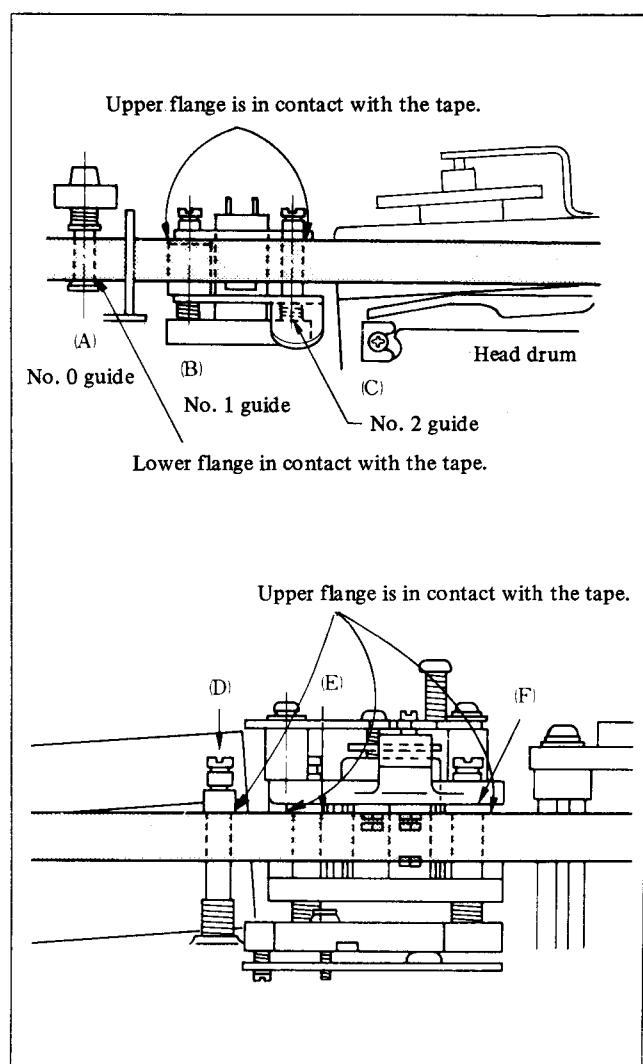

Fig. 3-27. Adjustment of Tape Path
When the waveform at the entrance side is not flat as shown in Fig. 3-27 for the clockwise and counterclockwise turning of the TRACKING control knob from center, detent position, adjust the heights (A), (B), and (C) of tape guides (0), (1) and (2). When the waveform at the tape exit side is not flat, adjust the height of the tape guides (D), (E) and (F). The height adjustment must be performed so that the tape contacts with the drum heads, and there is a minimum curl (not more than 2 mm) at the flange of each tape guide, the upper or lower flange contacts with the tape as shown in Fig. 3-27, and the RF waveform is flat.
(2) Perform the adjustment, following Step 3 onward after replacement.
(3) Raise the tape guide (D) shown in Fig. 3-27 by 0.5 mm. (Move the nut one turn)